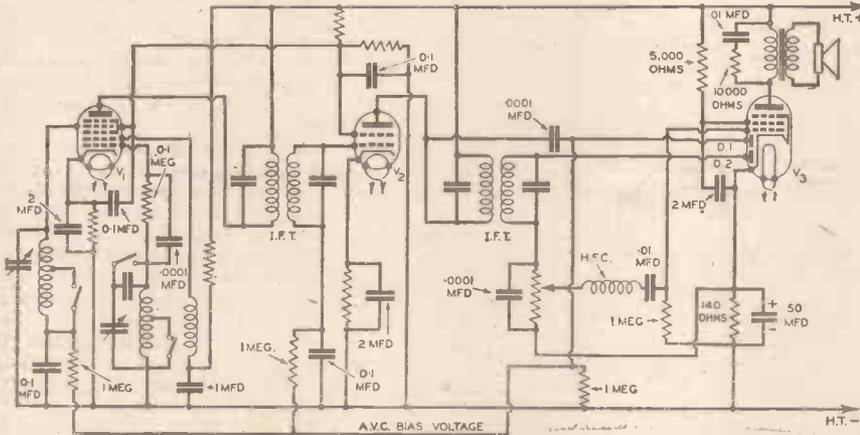

Fig. 1.—A three-valve A.C. superhet giving about three watts output with a very good A.V.C. system.
H.F. voltage applied to this diode circuit by the carrier is rectified, and fed through suitable filters as a negative grid bias to the grids of one or more pre-detector amplifying valves. For example, in the circuit shown in Fig. 1, the heptode V1, and the variable-mu S.G. valve V2, are controlled by the A.V.C. bias voltage.
The delay effect is obtained by applying a negative bias to the anode of the A.V.C. diode. In Fig. 1 it will be seen that the A.V.C. diode anode (D1) is connected through its 1-megohm load resistance to the negative end of the V3 cathode bias resistance. The A.V.C. diode anode is therefore negative with relation to its cathode. In the case of a battery valve bias voltages are adjusted with relation to the negative side of the filament.